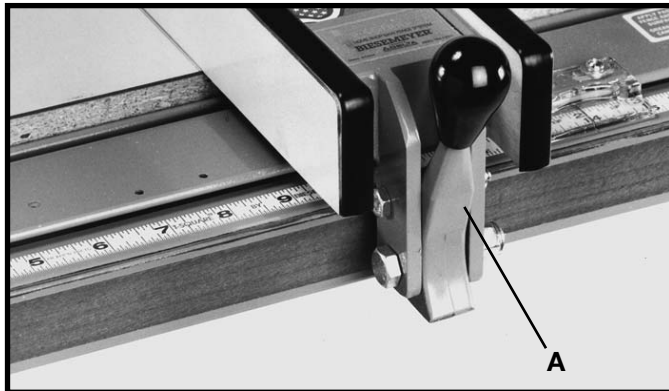
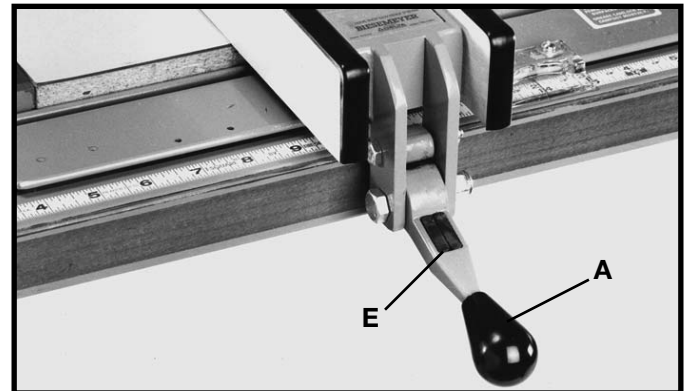

Fig. 142
Fig. 143
1. To move the fence along the guide rail, simply lift up clamp lever (A) as shown in Fig. 142, slide fence to desired position on rail, and push down on clamp lever (A) as shown in Fig. 143, to lock fence in position. **NOTE:** A magnet (E) Fig. 143, is provided to hold clamp handle (A) Figs. 142 and 143, in the up position when moving the fence.